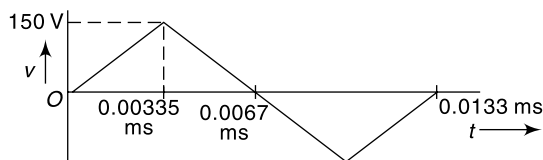

Fig. 14.9
14.16 A triangular voltage wave (shown in Fig. 14.9) with a peak amplitude of 150 V and frequency 75 KHz , is applied across a $0.03 \mu\text{F}$ capacitor. Determine the rms value of the current flowing in the capacitor.